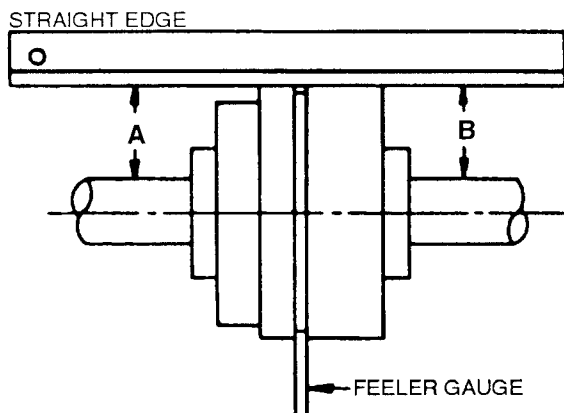

Figure 2. Coupling Alignment
7. Axial alignment of coupling is checked with a straight edge across both coupling halves, refer to figure 2. Measure distance A or B between straight edge and both shafts. Repeat measuring at two locations, 120 degrees apart, on periphery of coupling. The difference between three measurements for A and for B must not exceed 0.005 inch at any of the three positions.
8. Angular alignment of coupling is checked with a feeler gauge, refer to figure 2. Measure distance between faces of both coupling halves, near their outside, on four locations spaced 90 degrees apart. The four measurements must be within ± 0.005 inch tolerance. The same tolerance applies if a dial indicator is used to check angular alignment. Fix dial indicator to one coupling half and take readings while other coupling half is rotated 360 degrees.